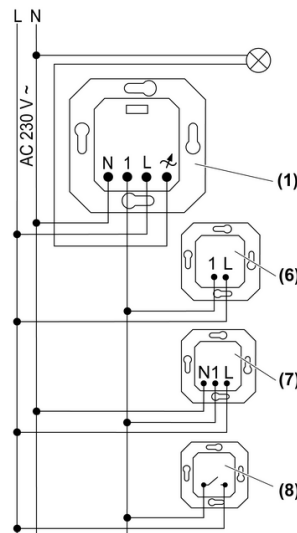

Figure 2: Connection diagram with optional extensions
- (1) FM insert
- (6) Extension insert, 2-wire
- (7) Extension insert, 3-wire
- (8) Installation button, NO contact
- Connect FM insert according to connection diagram (figure 2).
- Attach the frame (2) and the top (3).